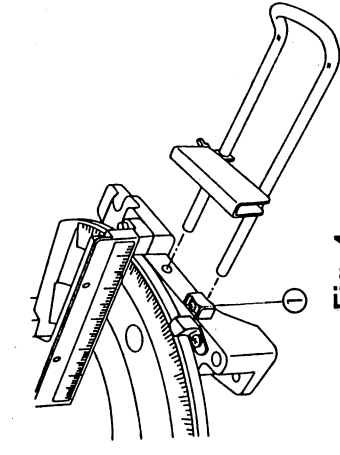

Fig. 4
2. Tighten the screw ① to lock the Extension Support. (Fig. 4)